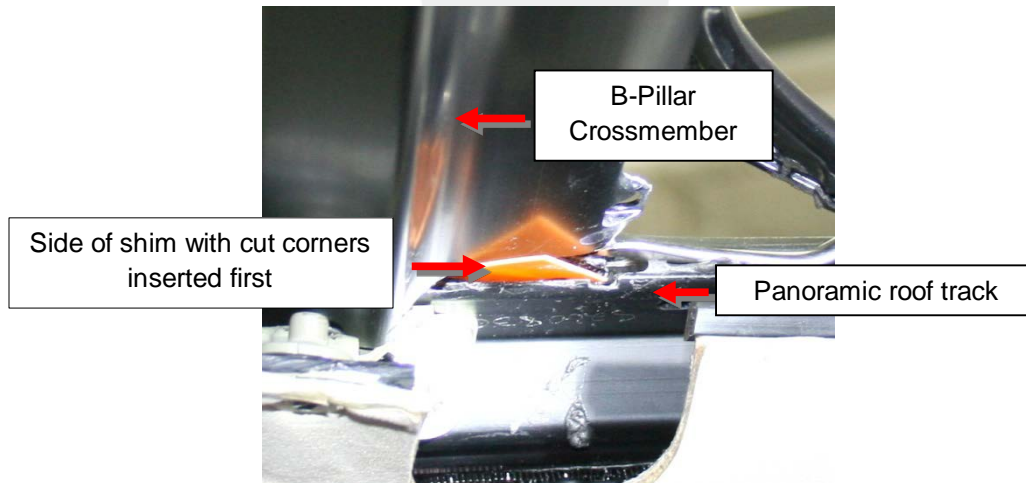

Figure 34 (LH side shown)
9. Insert the edge of the shim that has the cut corners between the B-Pillar crossmember and the panoramic roof track (Figure 34).